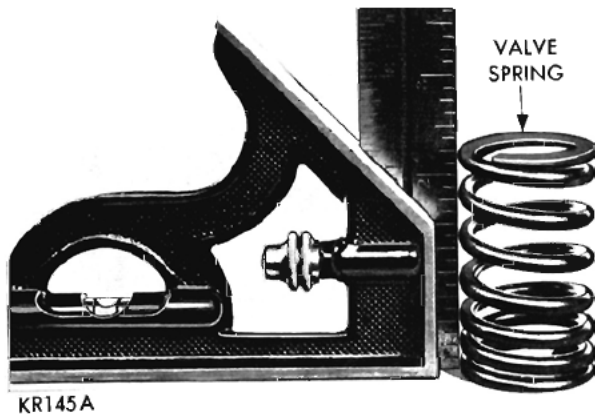

Fig. 77—Inspecting Valve Spring Squareness
(2) Inspect each valve spring for squareness at both ends with a steel square and surface plate, as shown in Figure 77.
(3) If the spring is more than  $\frac{1}{16}$  inch out of square, install a new spring.